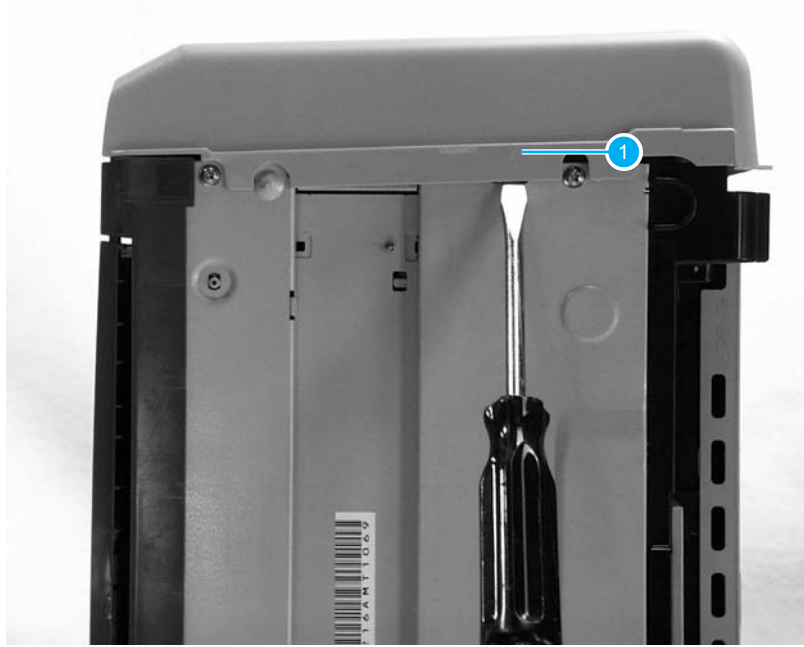

Figure 5-6. Removing the right side cover (3 of 5)
3. Use a small flat screwdriver to release the tab on the bottom of the cover (callout 1, figure 5-6).